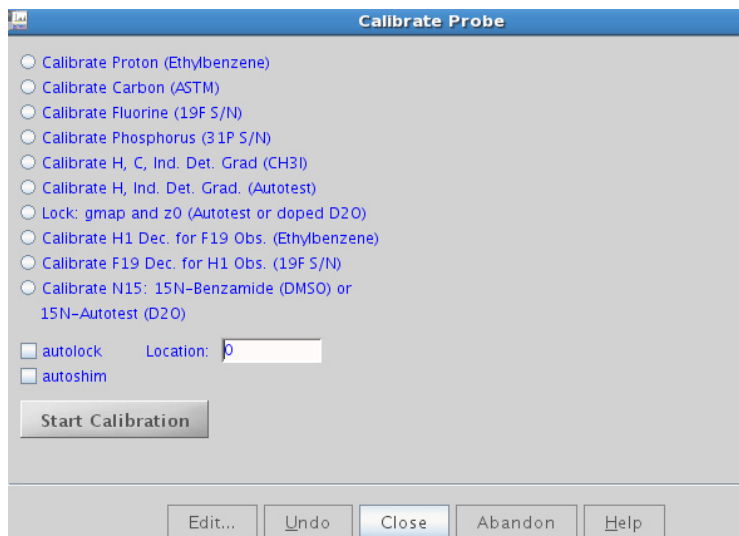

Figure 17 Calibrate probe
- 2 Follow the prompts, enter any required values, select options, and proceed according to the instructions presented in the Calibrate probe window; see Figure 17 for an example of the prompts presented.